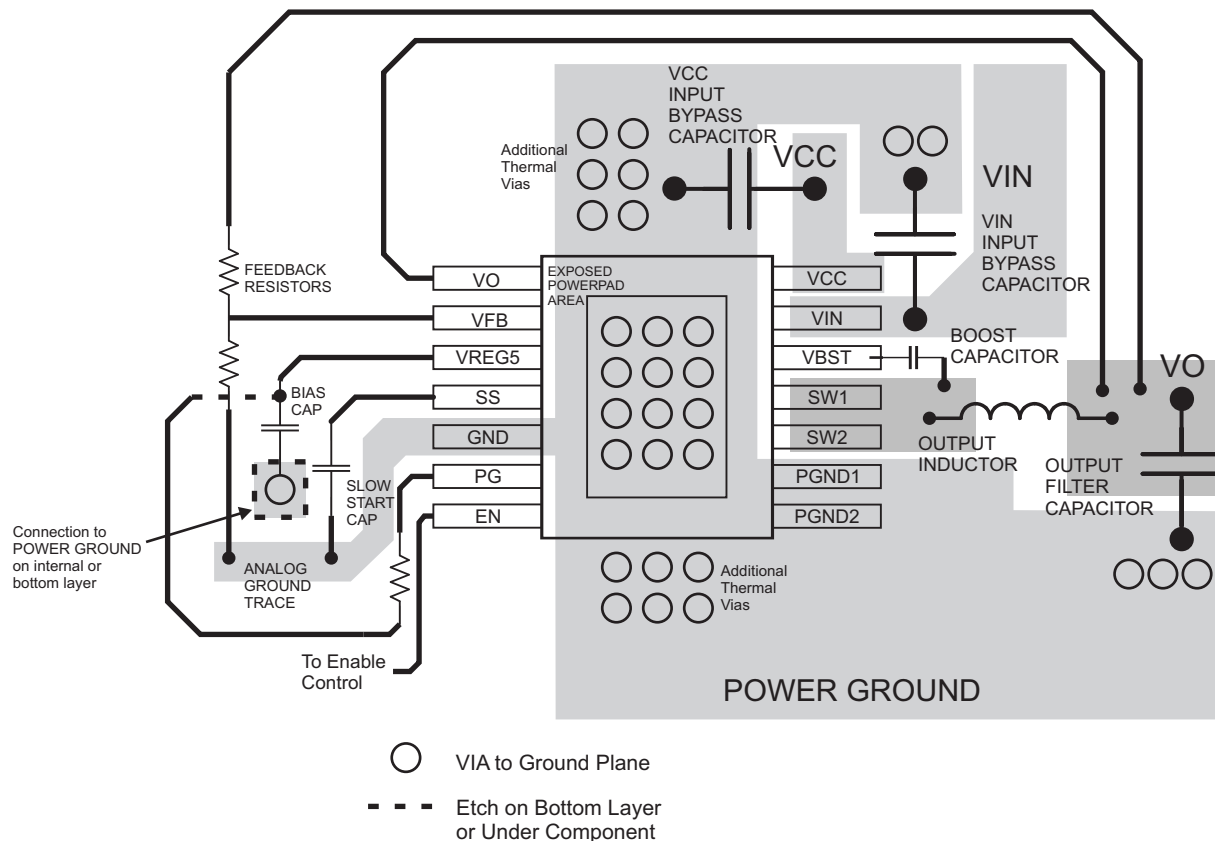

Figure 14. PCB Layout
- Added Figure 14 15
- Changed pin VOUT to VO in Figure 14 15